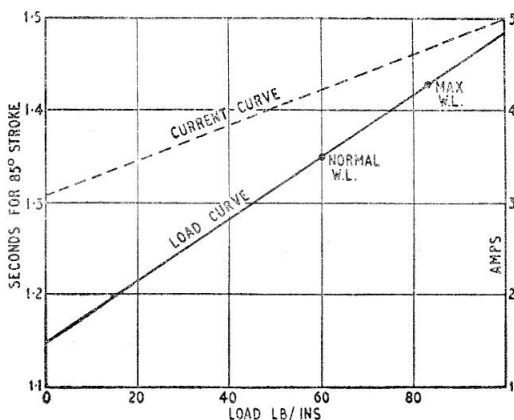

Fig. 2. Performance curves of motor
4. Electrical connections are identical with those described in A.P.4343, Vol. 1, Sect. 17, Chap. 1, and App. 7, dealing with Western type actuators. Internal wiring connections are given in the circuit diagram, (fig. 2) of the Appendix.